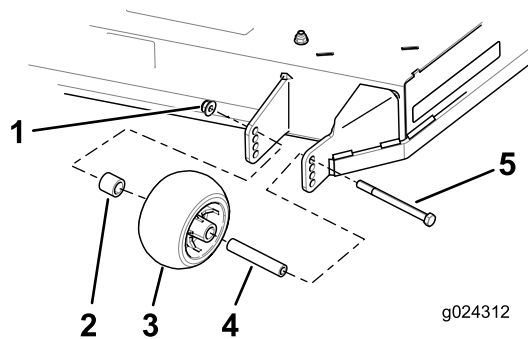

Figure 31
3. Remove the flange nut, anti-scalp roller, and bolt from the bracket (Figure 31).
4. Align the bolt and anti-scalp roller in the hole of the bracket that matched the closest height-of-cut position (Figure 31).
5. Insert the bolt into the bracket hole and secure the bolt and anti-scalp roller with the flange nut (Figure 31).